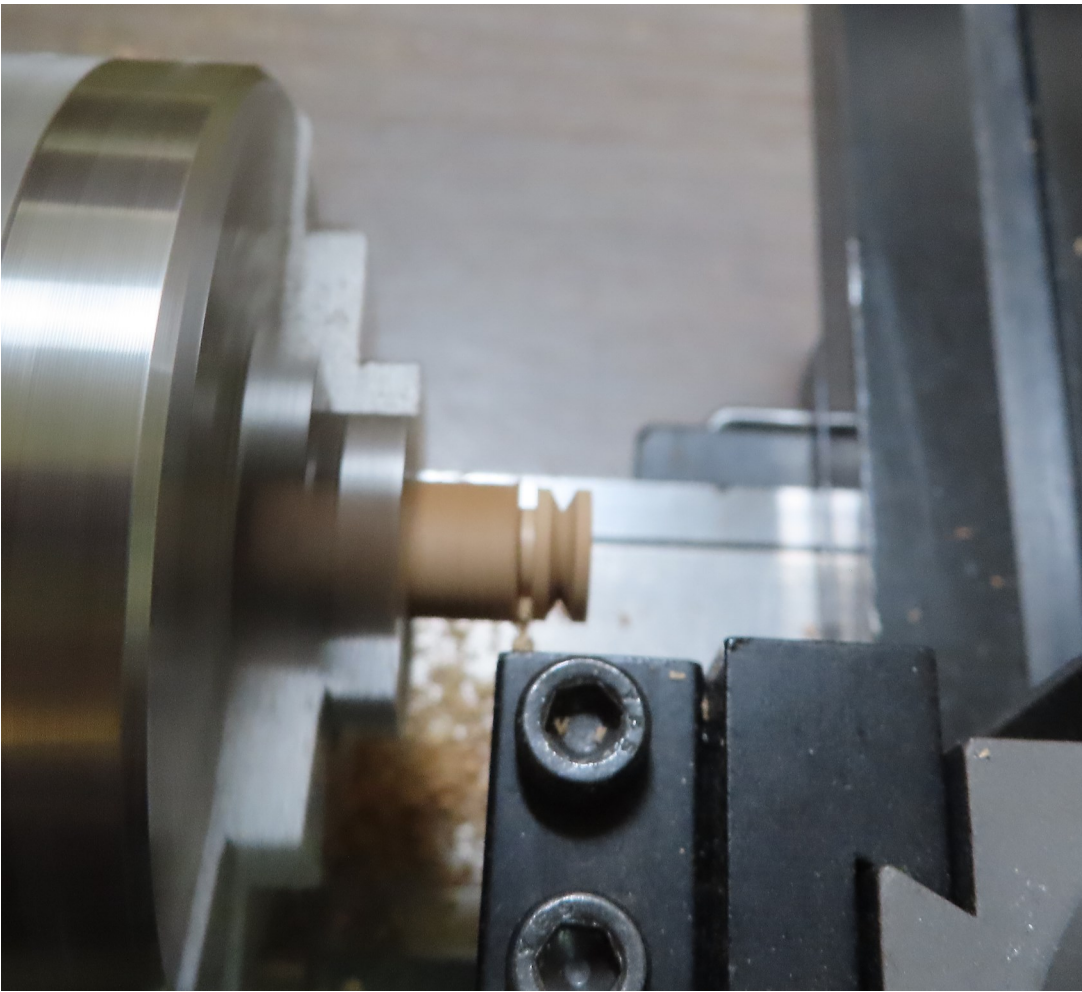

**Fig. 20**
**Figure 20** shows the 60° cutting tool in the correct position—notice the offset of the tool from the wood stock face end.